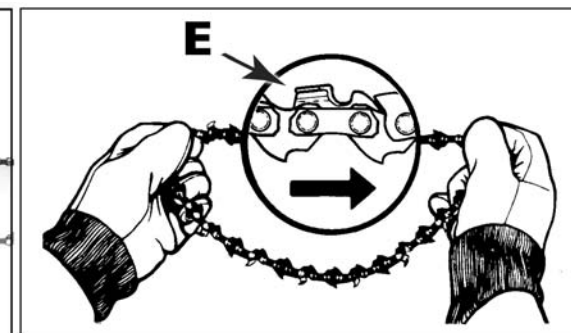
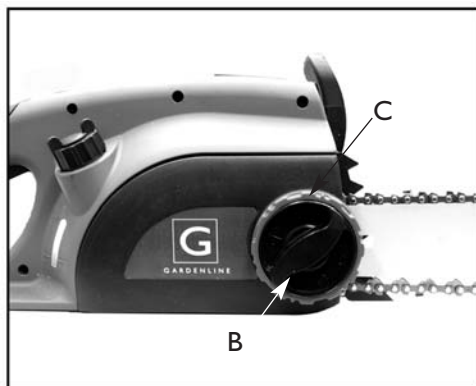

Fig. 3C
Fig. 3D
4. Spread the chain out with the cutting edges (E) of the chain pointing in the direction of rotating (Fig. 3C).
5. Place the side cover back in its place and turn the knob (B) clockwise.
6. Turn the tension ring (C) until the chain tension is correct (Fig. 3D + 4).